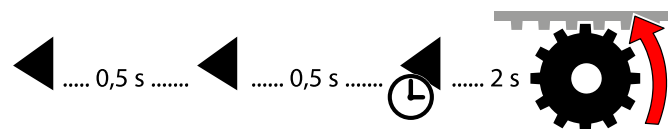

Fig. 102: Limit position setting – Setting left limit position
5. Press the following key combination to save the left limit position (see Fig. 102).